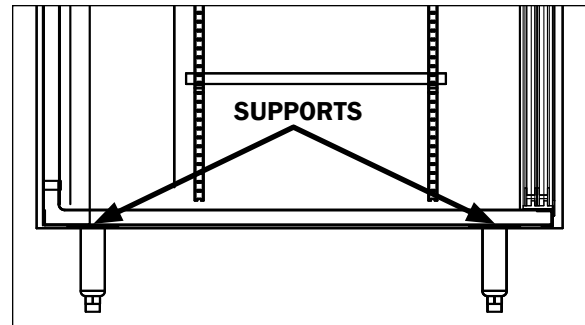

Fig. 1 Horizontal supports
5. Locate horizontal support positions along the chalk line (Fig. 1). Spot properly leveled shim packs at each support location.